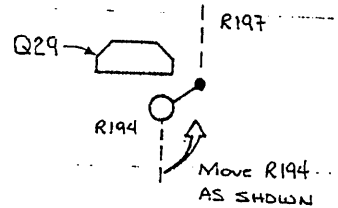

FIGURE 2
10. Install a 560K ohm resistor on the component side of the board as shown in figure 2. This resistor is now designated as R194.
7. Replace C182 and C183 with 0.0022 uF, 50V capacitors (see figure 2 for PC board view).